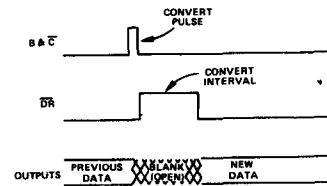
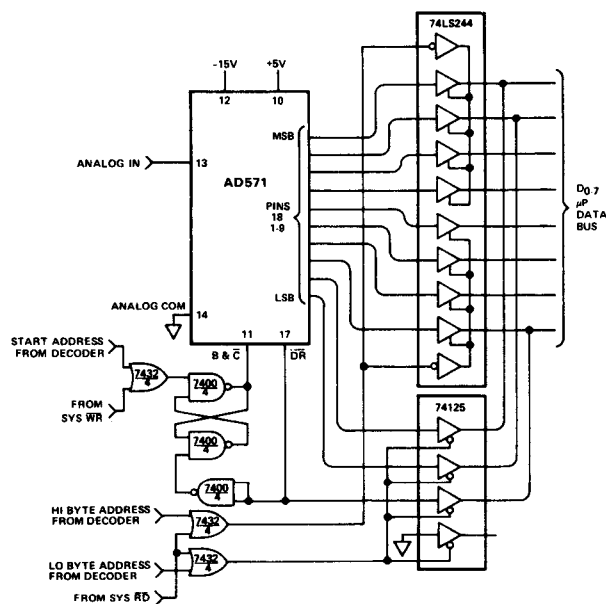

Figure 13. Convert Pulse Mode
Figure 16. Interfacing AD571 to an 8-Bit Bus (8080 Control Structure)
**Convert Pulse Mode** — In this mode, data is present at the output of the converter at all times except when conversion is taking place. Figure 13 illustrates the timing of this mode. The  $\overline{\text{BLANK}}$  and  $\overline{\text{CONVERT}}$  line is normally low and conversions are triggered by a positive pulse. A typical application for this timing mode is shown in Figure 16, in which  $\mu$ P bus interfacing is easily accomplished with three-state buffers.
The AD571 can easily be arranged to be driven from standard microprocessor control lines and to present data to any standard microprocessor bus (4-, 8-, 12- or 16-bit) with a minimum of additional control components. The configuration shown in Figure 16 is designed to operate with an 8-bit bus and standard 8080 control signals.